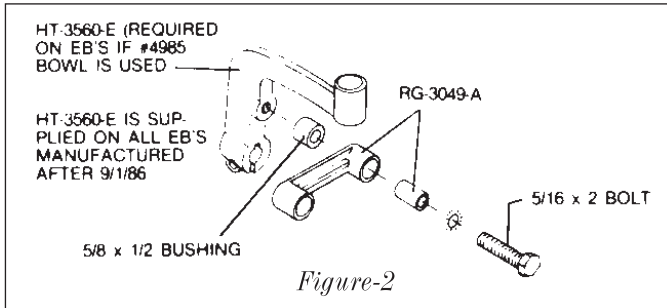

Figure-2
If the operating arm is HT-3560-E (identified by the part number on the casting and the 90-degree bend), install EB/K Conversion as shown in Figure-2. Note that 58X12 bushing is between HT-3560-B arm and connecting rod RG-3049-A.
**INSTALLATION ON K MODEL TOILETS** Refer to Figure-2